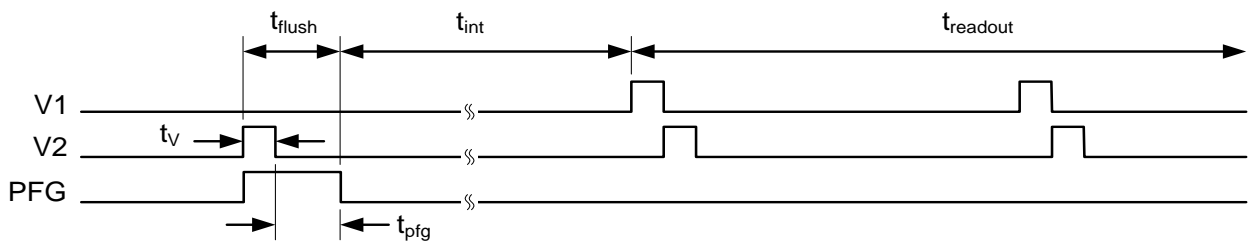

Figure 20: Pulse Flush Gate Timing
3.0	<ul style="list-style-type: none"> Page 23: PFG Holdtime decreased from 5ms to 180 μs. Page 30: Updated Figure 20 for PFG timing change.